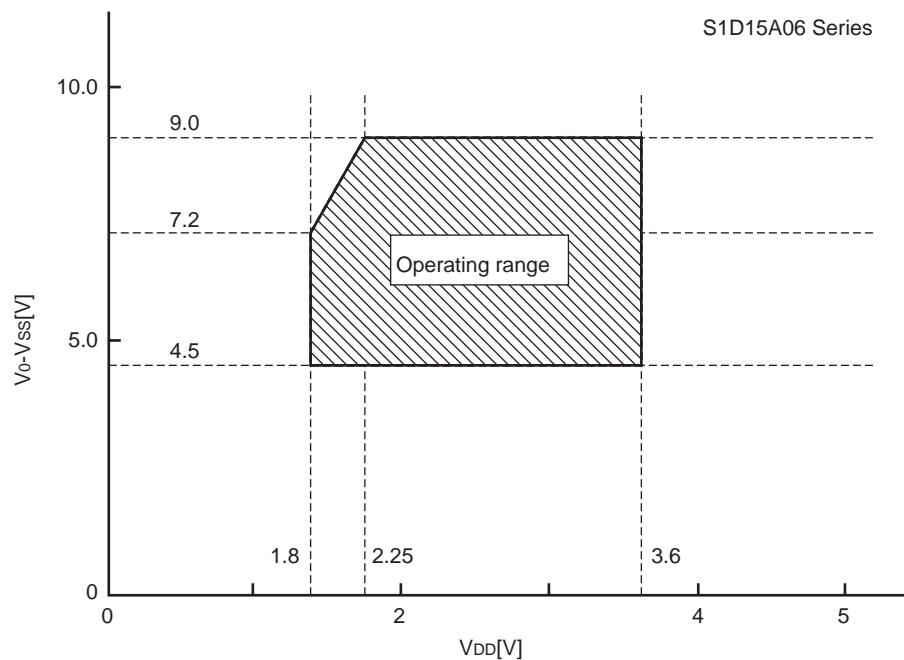

Figure 21
- * 2 : See Figure 21 for the operating voltage range of V_{DD} and V_0 systems. It is applicable when an external power supply is used.
- * 3 : A0, D0 to D5, D6 (SCL), D7 (SI), \overline{RD} (E), \overline{WR} (R/ \overline{W}), CS, CL, C86, P/S and \overline{RES} pins. $V_{IH} = 0.8 \times V_{DD}$ to V_{DD} , $V_{IL} = V_{SS}$ to $0.2 \times V_{DD}$ when $V_{DD} = 1.8V$ to $2.7V$.
- * 5 : A0, \overline{RD} (E), \overline{WR} (R/ \overline{W}), CS, C86, CL and \overline{RES} pins.
- * 6 : It is applicable when D0 to D5, D6 (SCL) and D7 (SI) pins are placed in high impedance.
- * 7 : It represents the resistance value to be employed when 0.1V is applied across the output pin SEGn or COMn and respective power terminals (V_1 , V_2 , V_3 and V_4). It must be selected within the operating voltage range (3).